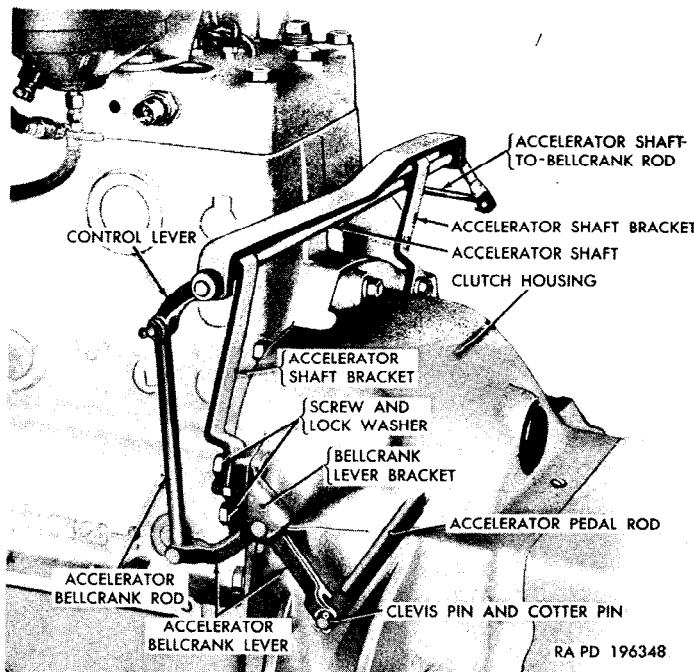

Figure 115. Accelerator shaft and linkage.
d. *Remove Accelerator Linkage.* Removal of various components of the accelerator linkage (fig. 115) may be accomplished without removing all of the linkage from the vehicle. However, if the accelerator shaft and connecting linkage requires replacement, remove the assembled parts as a unit.
- (1) Detach the accelerator pedal rod from the accelerator bellcrank lever (fig. 115) by removing the cotter pin and clevis pin.
- (3) Disconnect the right end of the accelerator shaft from the throttle control bellcrank rod by removing the cotter pin and flat washer, and pulling the rod from the end of the shaft.
- (4) Remove the two screws and lockwashers that secure the accelerator shaft bracket and the accelerator bellcrank lever bracket to the left side of the clutch housing (fig. 115).
- (5) Remove transmission access covers (par. 121g).
- (6) Remove the cap screw and lockwasher that secure the accelerator shaft bracket to the right side of the clutch housing (fig. 115).
- (7) Remove the accelerator shaft with assembled parts from the opening in the driver's compartment.
- (8) Remove the two screws that secure the accelerator hinge to the left floor panel in the driver's compartment, and remove the accelerator pedal and pedal rod.
- (1) If the weatherseal for the accelerator rod was removed (*e*(1) above), install a new weatherseal in the floor panel.
- (2) Insert the accelerator pedal rod through the weatherseal and position the pedal in the floor panel. Install the two self-locking washers and screws.
- (3) Insert the accelerator shaft and assembled parts through the opening in the driver's compartment, and position the shaft bracket on the clutch housing (fig. 115) with the screw holes in the bracket alined with those in the clutch housing. Secure the shaft bracket to the right side of the clutch housing with a $\frac{3}{8}$ -16NC x $1\frac{1}{2}$ cap screw and $\frac{3}{8}$ -inch lockwasher. Do not tighten the screw at this time.
- (4) Position the accelerator bellcrank lever bracket between the accelerator shaft bracket and the left side of the clutch housing (fig. 115), aline the screw holes, and install the two $\frac{3}{8}$ -24NF x $1\frac{1}{4}$ cap screws and $\frac{3}{8}$ -inch lockwashers. Tighten the screws.
- (5) Tighten the cap screw that secures the shaft bracket to the right side of the clutch housing.
- (6) Install the transmission access covers (par. 122f).
- (7) Attach the throttle control bellcrank rod to the right end of the accelerator shaft, and install the $\frac{1}{4}$ -inch flat washer and $\frac{3}{32}$ x $\frac{3}{4}$ cotter pin.